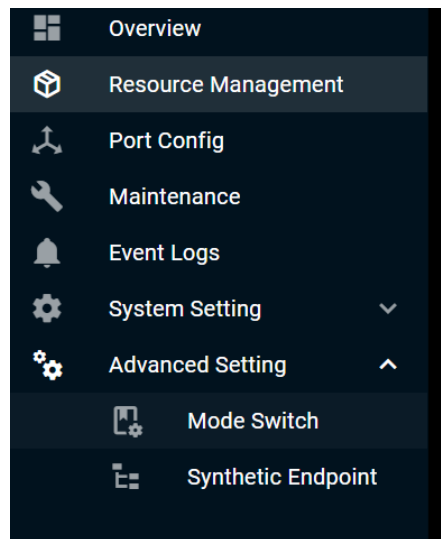

Figure 93. Mode Switch in System Management GUI
- A. Navigate to System Management GUI > Advanced Settings > Mode Switch (refer to Figure 93).